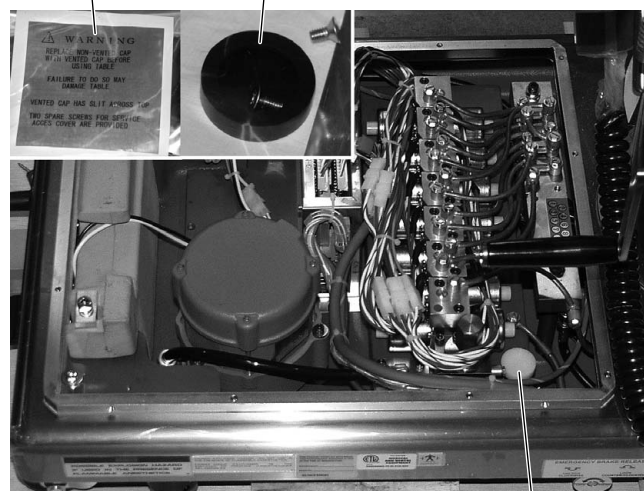

Figure 3.
4. Remove the clear shipping cap from the hydraulic tank (lift & pull) and replace it with the black vented cap (snaps on) supplied. See figure 3.